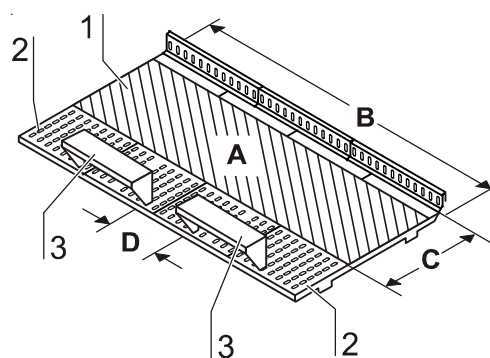

Fig. 9
**Fig. 9:** The working area **A** for optimal product protection extends over the entire width **B** and depth **C** of the workplate [1]. The two armrests [3] are positioned centrally to the working area at distance **D** (20 cm) from each other. For attachment, each armrest is inserted into the first perforation track [2] of the workplate.